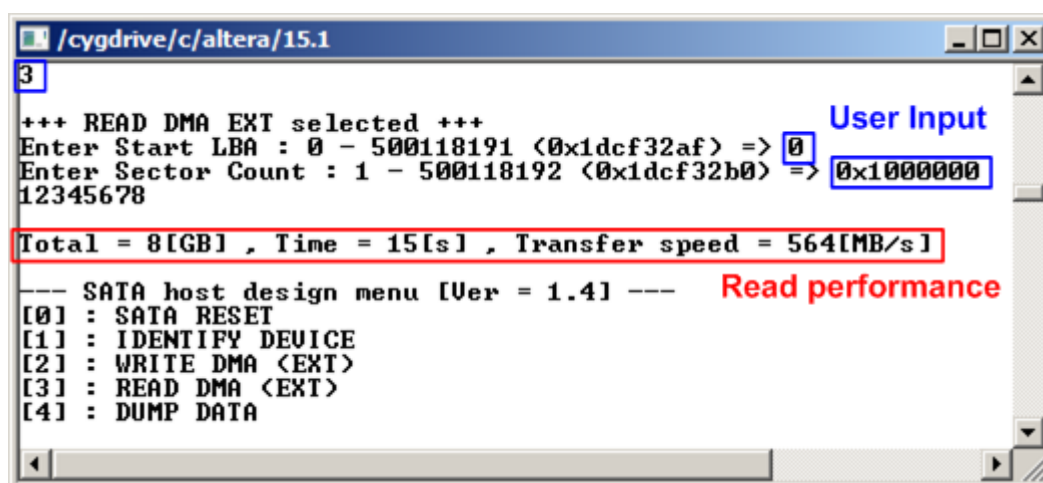

Figure 2-5 READ COMMAND without Verify
- Sector Count: same description with Sector Count in WRITE DMA (EXT) menu. If this input is not more than 65536, the third input will be displayed for selecting verification pattern. If input is more than 65536, the third input will not be displayed to skip data verification process and run for checking performance only, as shown in Figure 2-5.